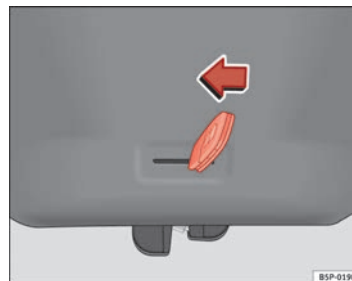

Fig. 49 Rear lid: emergency open
- Insert the key in the groove and unlock the locking system, turning the key from right to left, as shown by the arrow ⇒ Fig. 49. ■